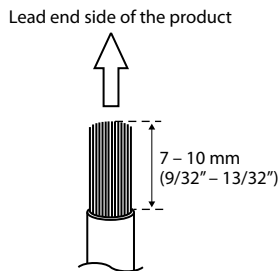

Fig. 8
2. Remove the insulation from the ends of the wire leads by about 7 – 10 mm (9/32" – 13/32"). (Fig. 8)